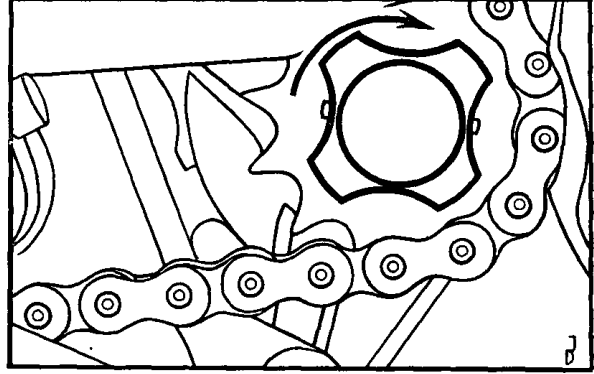

Fig. 7. Disengaging the engine
- Disengaging the engine (fig. 7)
If you want to use the moped as the cycle (e.g. when consumption of fuel) depress the disengaging device of engine - the star-like nut in the direction in the engine and rotate to the right (fig.7). the nut remains fitted into this position and the engine remains disconnected. The engine is engaged again when you depress again the star-like nut in the direction into the engine and rotate it to the left.